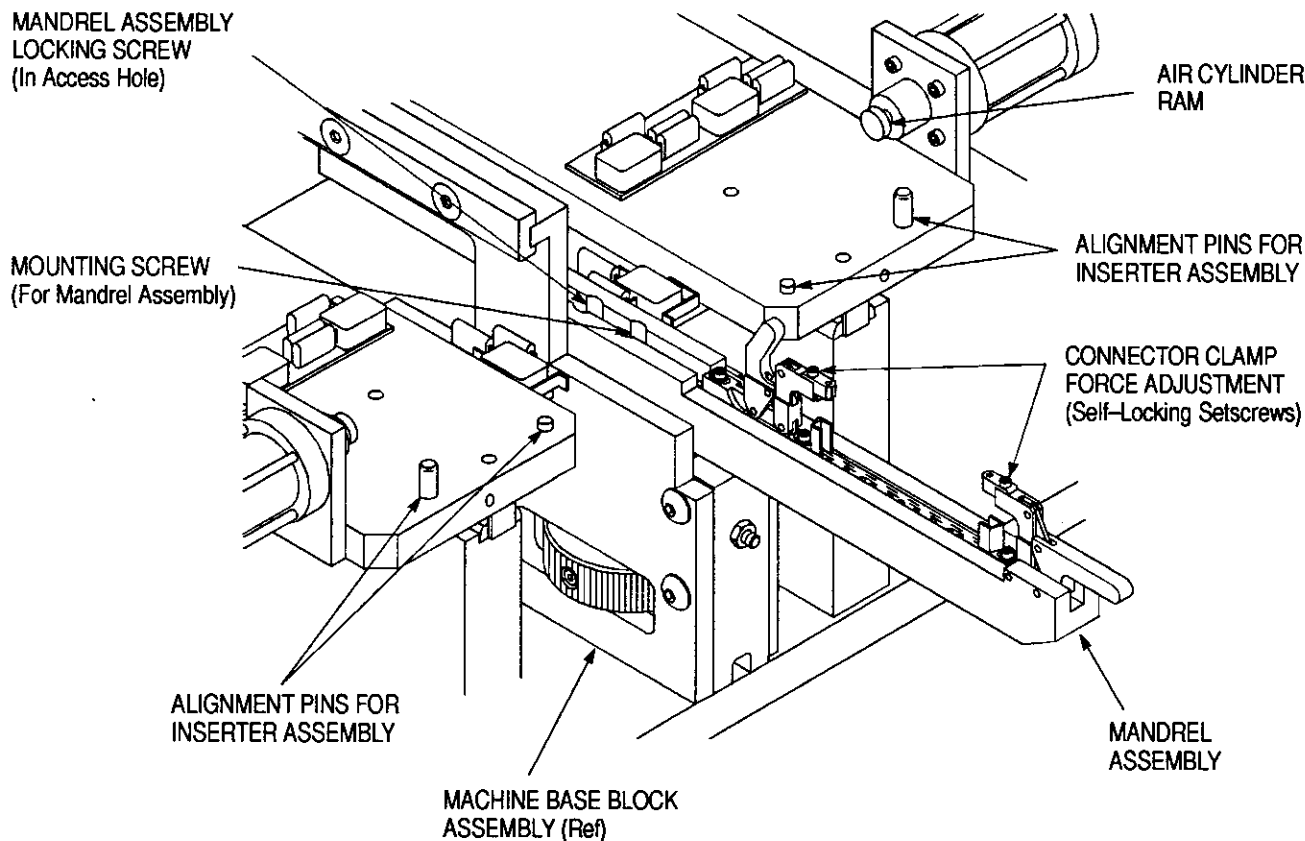

Figure 2
**3.1. Mandrel Assembly** (Figure 2)**NOTE**
2. Locate the base of the inserter assembly onto the two alignment pins on the machine's inserter assembly mounting area. Refer to Figure 2.
3. Using a 5/32-in. hex wrench, loosen the mandrel assembly locking screw, which is located in the center access hole. Refer to Figure 2.
With a connector loaded onto the mandrel assembly, use a .050-in. hex wrench to adjust the connector clamp self-locking setscrews as desired. Refer to Figure 2.